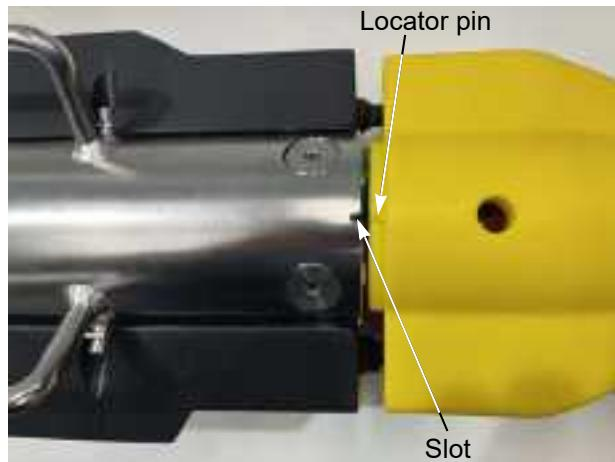

Figure 4-14: Aligning the Locator Pin in the Nose Cone with the Slot in the Towfish Housing
11. Slide the nose cone into the towfish housing, aligning the locator pin on the nose cone with the slot in the housing and threading the nose cone retaining bolt into the forward end cap as shown in Figure 4-14.